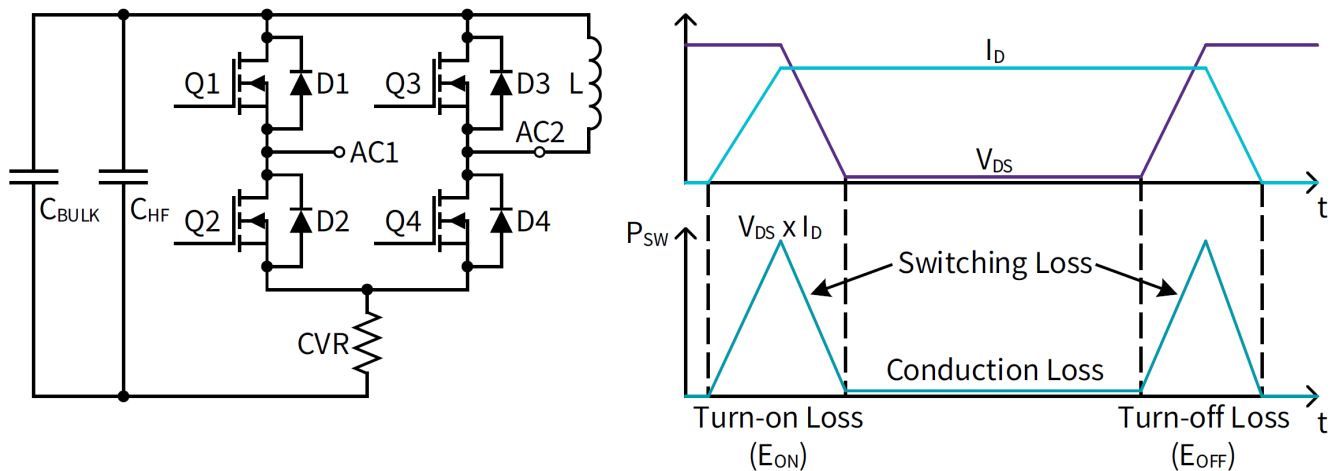
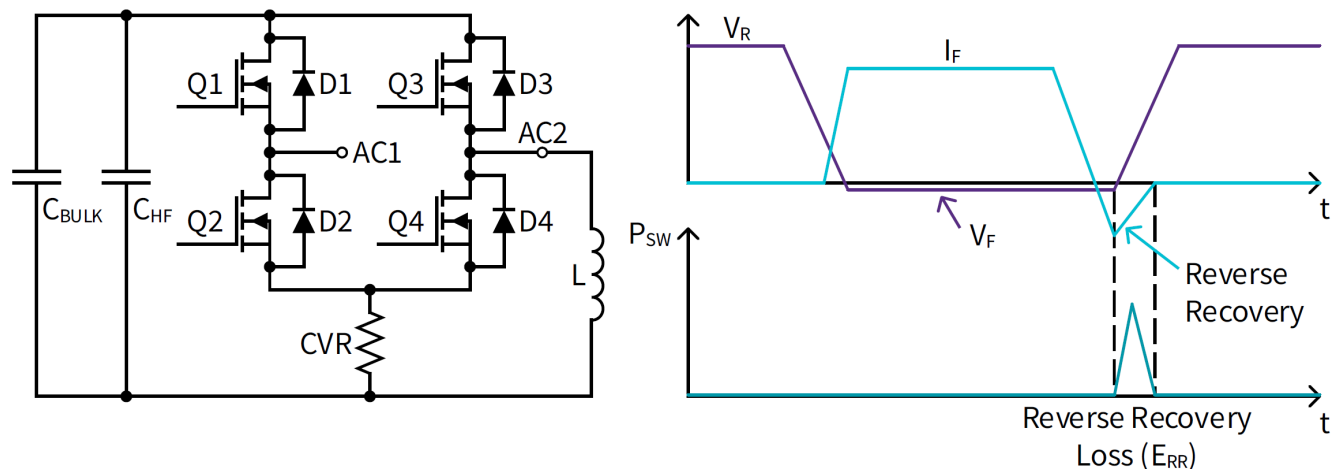

Figure 8: CIL test fixture used to measure the switching loss of MOSFET Q4
Figure 9: CIL test fixture used to measure the switching loss of body diode D4
For full-bridge modules, the test fixtures to measure both events are given below in Figure 8 and Figure 9, respectively, for the “AC2” phase leg. Phase leg “AC1” is inactive in this example and is configured to remain off during testing to avoid affecting the measurements of the active switch positions. Q3 and Q4 represent the selected switch positions of the Wolfspeed full-bridge power module. Likewise, D3 and D4 represent the intrinsic body diodes of each switch position. For both tests, film capacitors ( $C_{BULK}$ ) are used for bulk energy storage to provide the needed energy transfer to the inductor (L) for the switching event, while high-frequency capacitors ( $C_{HF}$ ) are used to provide a low-inductance switching loop. For MOSFET switching measurements in Figure 8, the inductor is connected across the upper switch position of the phase leg from the “AC2” midpoint to the positive bus rail while Q3 is held off and Q4 is pulsed; for body diode switching measurements in Figure 9, the inductor is connected across the lower switch position of the phase leg to the negative bus rail while Q3 is pulsed and Q4 is held off.